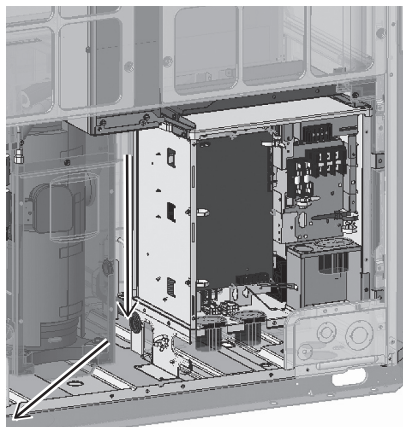

Figure 4
(5) Remove the transformer box. (Figure 4)